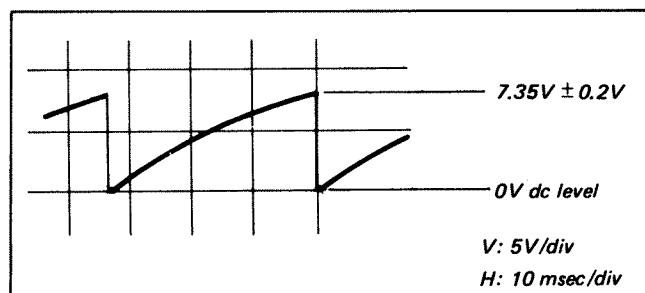

Fig. 4-15. Tape speed detection adjustment
- (1) Play back the β II mode of the alignment tape.
- (2) Connect the oscilloscope to the collector of Q36. Input: DC range
- (3) Adjust RV7 so that the waveform peak is $7.35V \pm 0.2V$. (See Fig. 4-15.)